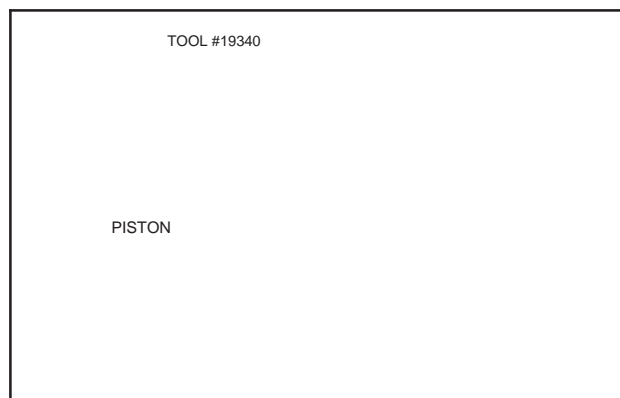

Fig. 1 – Remove Rings
1. Remove piston rings using ring expander, Tool #19340, Fig. 1.